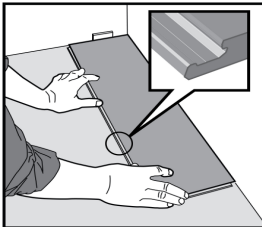

Figure 1.
- iii. Begin laying the floor from the left corner of the room. ALL BOARDS SHOULD BE INSTALLED WITH THE TONGUE-SIDE FACING THE WALL. (See Figure 1)